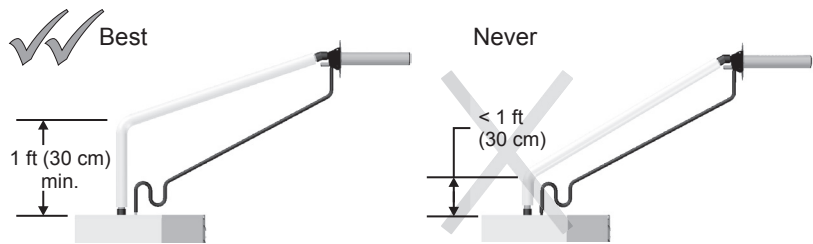

Figure 2: Vertical height recommendation from humidifier.
- 1. Always install at least 12" of vertical run directly from the humidifier before any slope or bend occurs. See Figure 2.